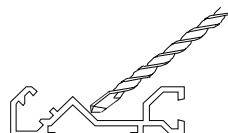

Figure 2
STEP 2. Select one base member extrusion, RAL1. If the anchor holes have not been drilled into the base member at the factory, mark the locations for the anchor holes on the selected extrusion along the extrusion's I.D. mark. Standard anchor spacing is 20" o.c. with anchor holes an anchor hole a maximum of 3" from each end of the extrusion. Drill the anchor holes into the base member extrusions at the marked locations, see Figure 2.